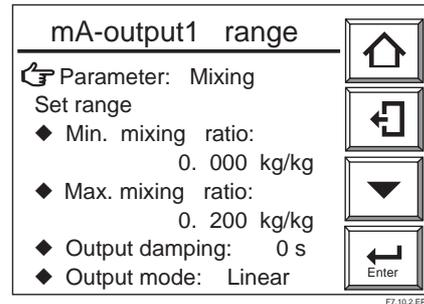

Figure 7.10.2 Mixing Ratio Display
- (5) The “Mixing” in Figure 7.10.2 appears.
- (6) Perform the same setting in mA-output2 if necessary.